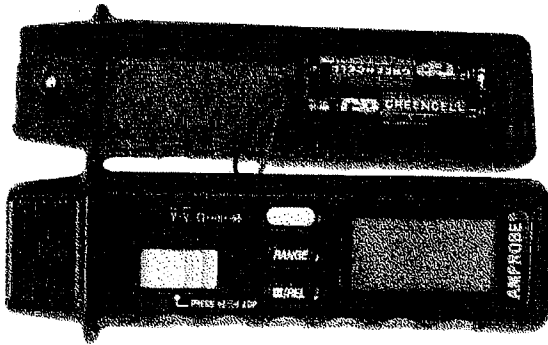

Figure 2
2. Position the meter face down on a soft surface. Remove the screw from the case bottom. Refer to Fig. 2.
4. Lift the battery holder from the unit and remove the (2) AAA batteries.